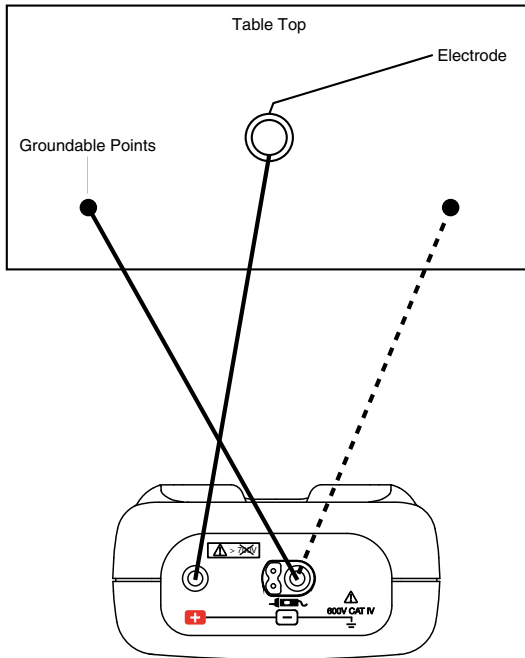

Figure 6
- Repeat this procedure with the Model 6536 connected between one weight and a known electrical ground (Figure 6 below).
- Resistance from test electrode to a groundable point (Figure 6): Measured value: $\leq 10,000 \text{ M}\Omega$ ($10 \text{ G}\Omega$)